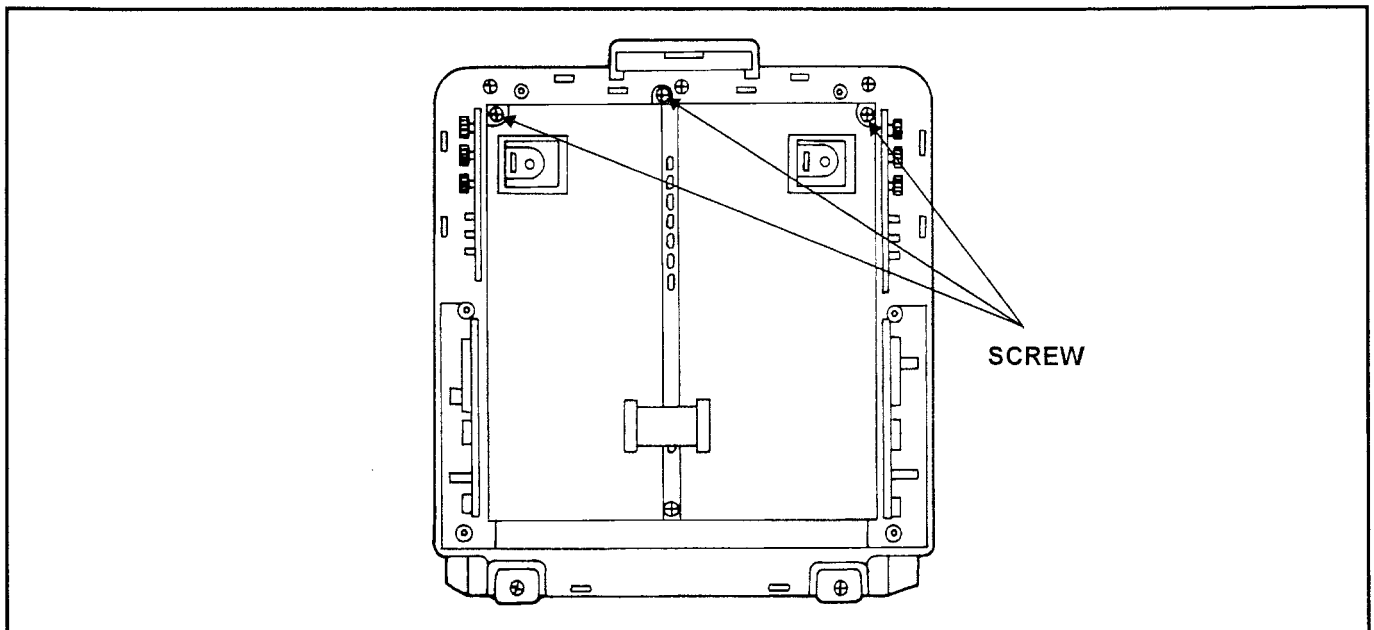

Figure 4
1. Unscrew the 3 screws and open the P.C.Board Unit as shown in Figure 4.